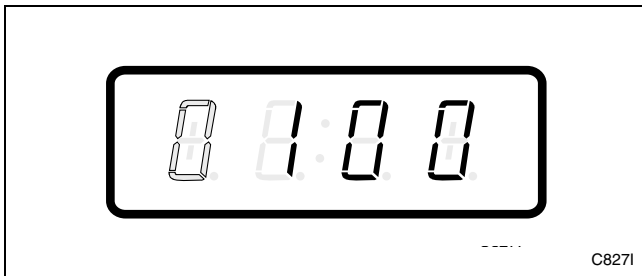

Figure 25
6. Press the START (enter) keypad to enter the fifth digit and display remaining four digits. The active digit will flash one second on and one second off. Refer to *Figure 25*.